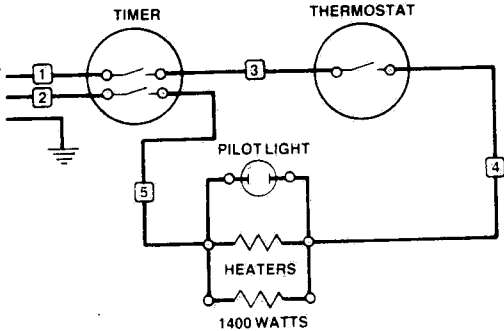

Figure 3-1. ELECTRICAL SCHEMATIC — 120-VOLT MODEL.
The electrical schematics (Fig. 3-1 or 3-2) and wiring chart Table 3-1 are included to aid in understanding the following descriptions (Par. 3-2 and 3-3).
3. Use the control system descriptions (Section 3), electrical schematic (Fig. 3-1 or 3-2) as aids in understanding system operation and how the malfunction of a specific component would affect it.